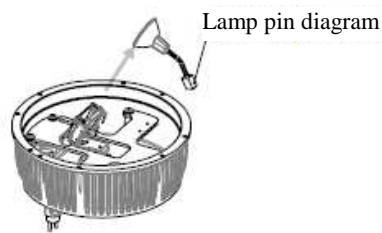

Figure 5-6
- Push out the lamp along the sliding chute (shown in Figure 5-6);